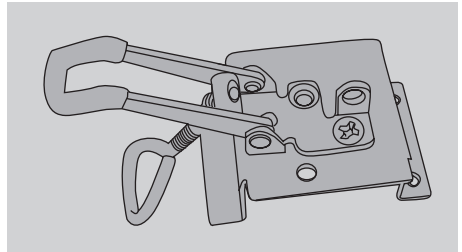

Figure 1
- 2 x Clamping Latch mounted on bracket, As indicated in Figure 1.